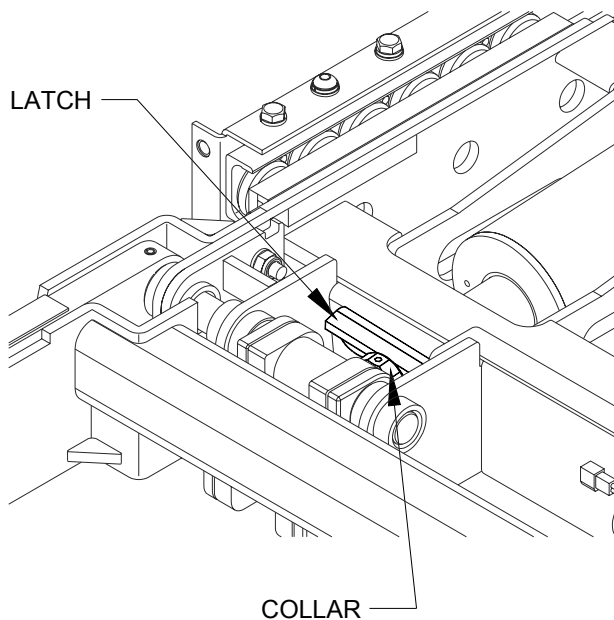

FIGURE 2-1: PLATFORM HELD BY LATCH
- Refer to **Figure 2-1** on following page. Lower the platform to stow height (hex-shaped collars bearing against stow level latch plates). If the platform cannot be easily moved into the enclosure, then adjustment is required.